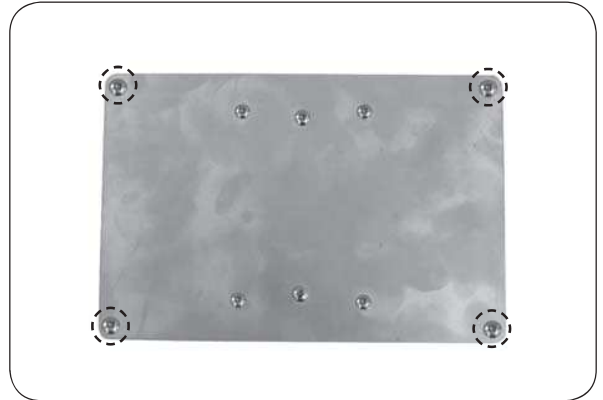

Fig. 29-1 Remove 4 large screws
2. Using a phillips screwdriver, remove the 4 large screws found on the cover of the power supply box (see Fig. 29-1).